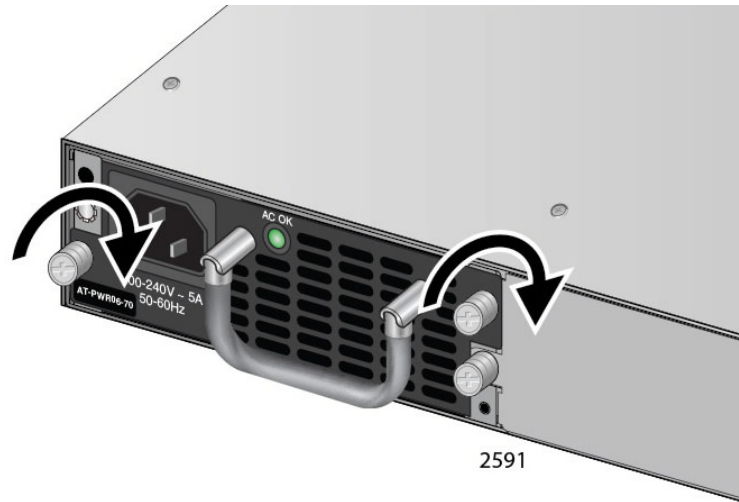

Figure 26. Tighten AT-PWR06 Captive Screws
5. Tighten the captive screws to fasten the power supply module to the chassis. See Figure 26.